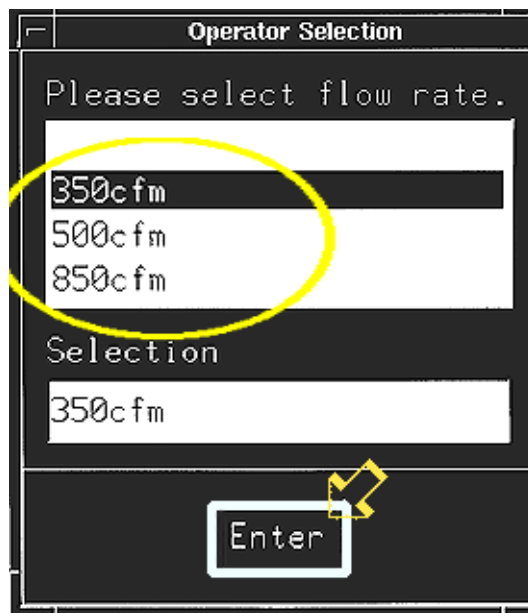

Figure 10
- 108 On the "Please Select Flow Rate" menu, highlight the 350 CFM (or 500 CFM, or 850 CFM). See the circle in Figure 10. The chosen flow rate will appear in the "Selection" field. Click on Enter. See the arrow in Figure 10.